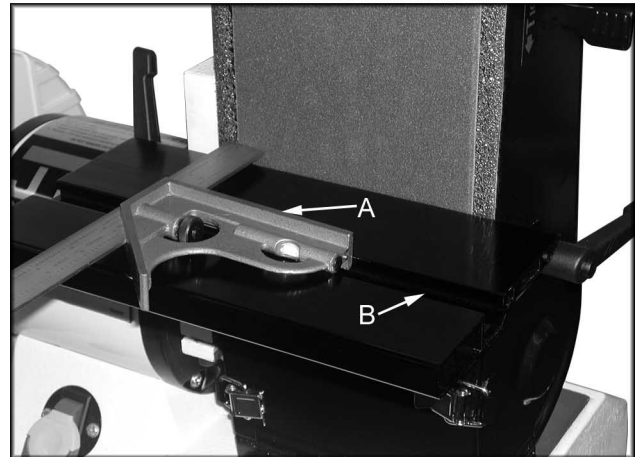

Fig. 5
3. Place a combination square (A, Fig. 5) in the miter gauge slot (B, Fig. 5) and check the distance from the slot to the edge of the sanding belt. Slide the square along the slot to the other end of the belt and check the distance. The distances should be equal to ensure that the miter gauge travels parallel to the belt. Loosen the two socket head cap screws at the bottom of the table, which hold the table and left trunnion in place to adjust the distance.